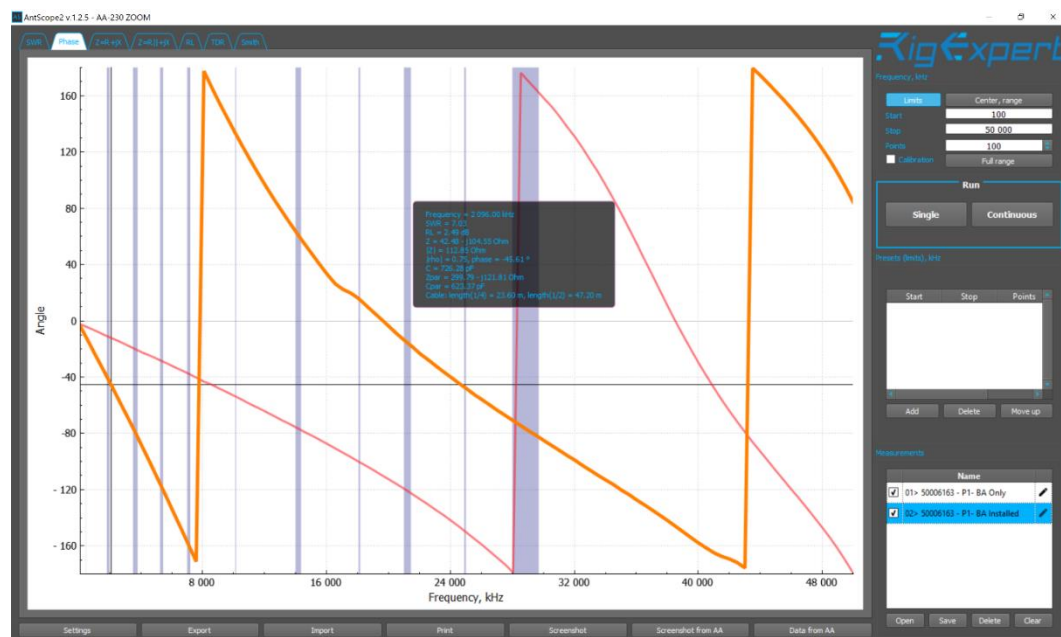

Figure 11-70: Results - typical
5. Verify that the results achieved are similar to that shown in Figure 11-70.
The internal pin of the Bushing Adaptor must make electrical contact with the bushing tapping point for a phase change to occur as demonstrated in the example shown in Figure 11-70.